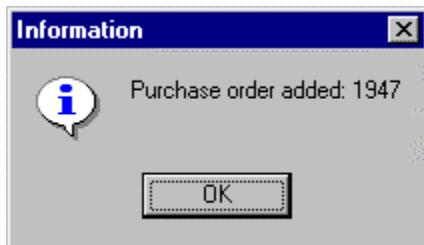

Figure 2-26. Information - Purchase Order Added
- If appropriate, prompts you that the purchase order was added to the database (*Figure 2-26*).